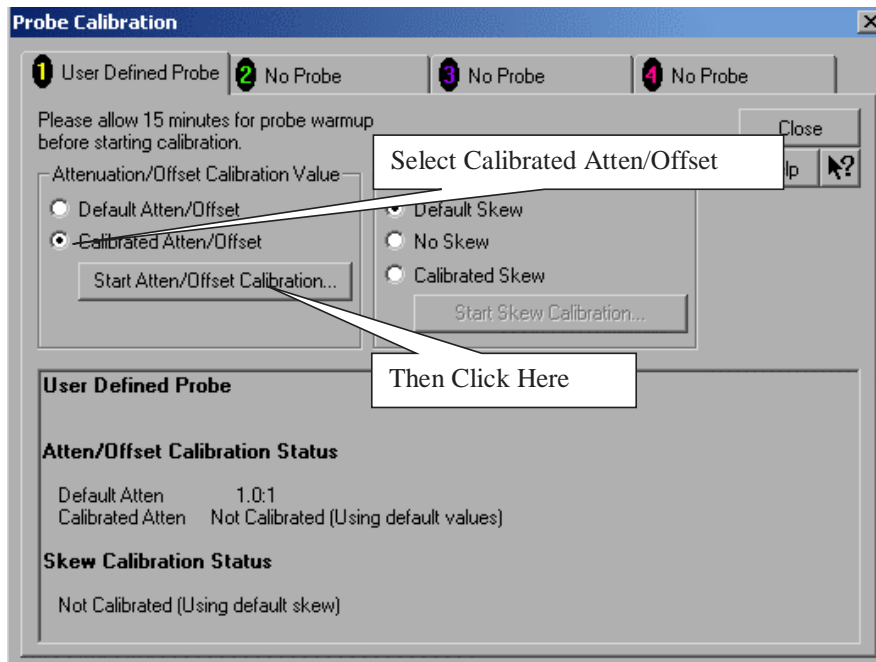

Figure 293 Probe Calibration Window.
- 5 Referring to Figure 293 below, perform the following steps: